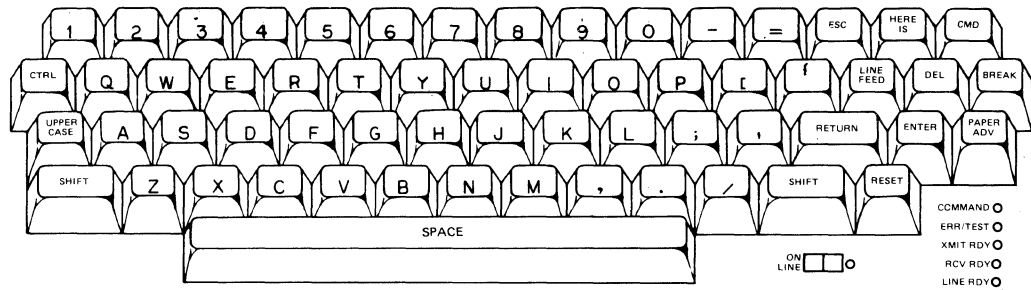

Figure 3-4. Keyboard (Upper Case)
- Shifted—Either or both SHIFT keys depressed; uppercase letters and symbols are encoded. The characters generated by each key when depressing the SHIFT key are illustrated in Figure 3-4.